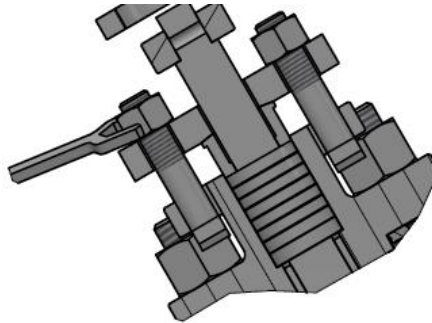

Fig.2 Stem packing gland tightening
- The valve stem packing should be the subject of particular attention as it is important for the qualitative maintenance of tightness and should be checked every 3 months. If leakage at the stem packing is detected, the gland nuts should be tightened slowly (Fig. 2). When gland nuts are tightened, if the gland falls down more than twice the packing ring height, new packing rings should be added to the stem packing.